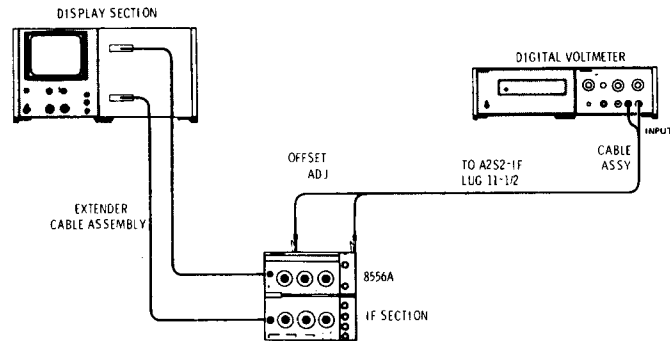

Figure 5-6. Frequency Calibration Adjustment Test Setup
1. Connect equipment as shown in Figure 5-6, connecting Digital Voltmeter between Scan Width Switch Assembly A2, wafer S2-1R lug 11½ (where white-red-gray, 928, wire is connected) and chassis ground.